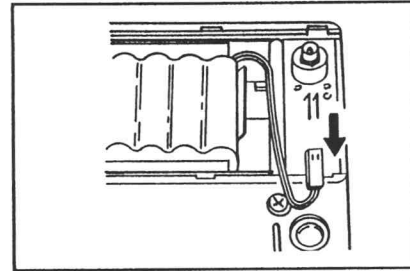

Fig. 3-3. Battery Disconnection.
- 4) Disconnect battery pack cable from connector on Filter Board (Fig. 3-3).